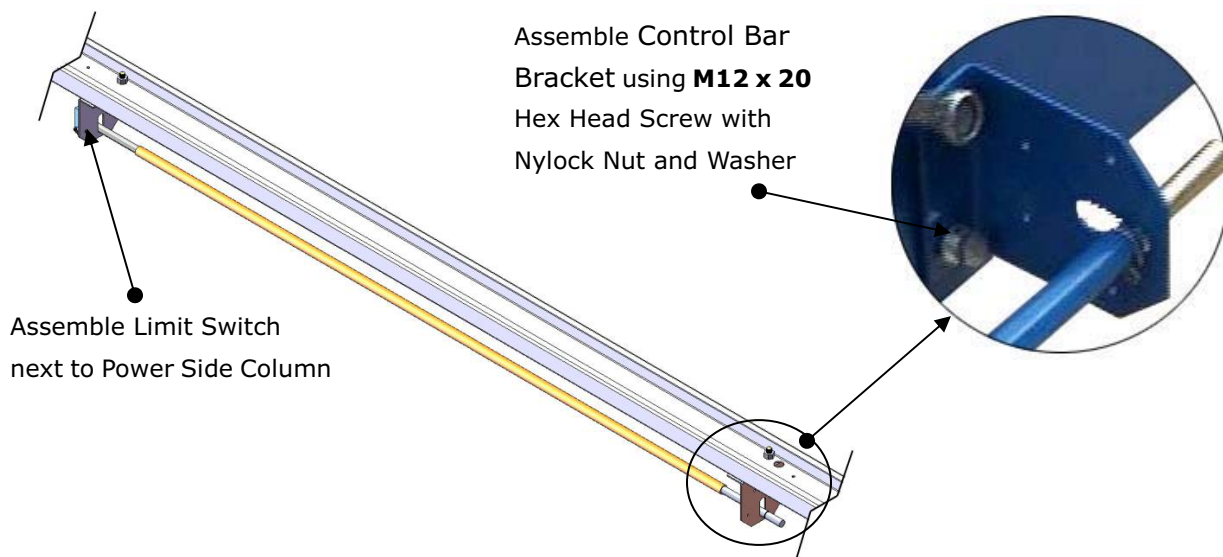

Fig. 19
I. Install Control Bar (See Fig. 19)